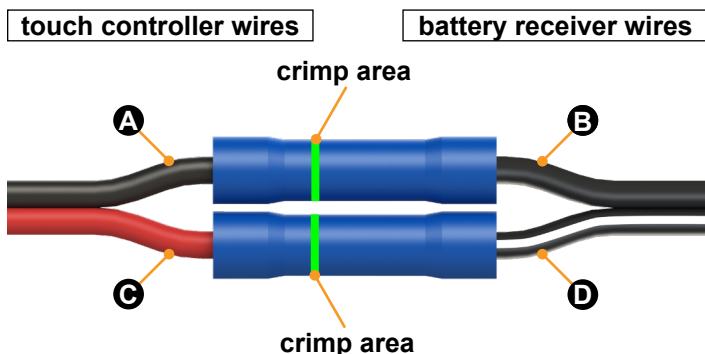

Fig.38
H. Use a crimping tool to crimp each butt connector's metal sleeve (green crimp area) onto the two bare wires (Fig.38).